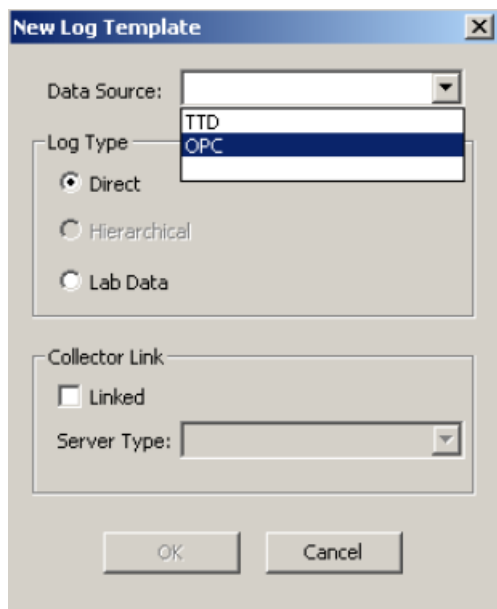

Figure 202. New Log Template Pop-Up Dialog Box
8. In the pop-up dialog box New Log Template, select a source from the **Data Source** drop-down menu and click **OK**. In this example OPC is selected. See Figure 202.